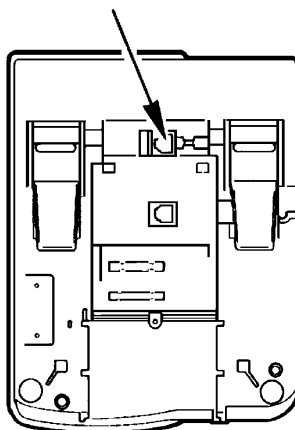

Figure 7-2: Connecting an ETW-Type Multiline Terminal
2. Lead the cord out through the cord groove as shown in *Figure 7-2: Connecting an ETW-Type Multiline Terminal* – .